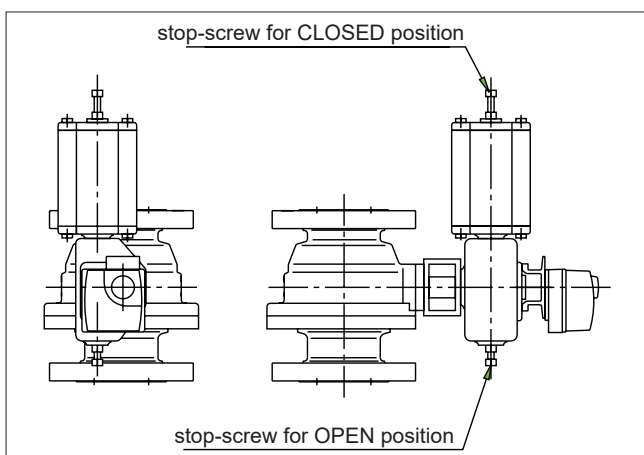

Fig. 18 Open and closed positions of the B1C/B1J actuator
- Adjust the ball open and closed positions by means of the actuator stop screws located at both ends (see Fig 18). An accurate open position can be seen in the body flow bore. Check that the yellow arrow on the actuator indicates the ball flow opening position. **Keep fingers out of the flow bore!**